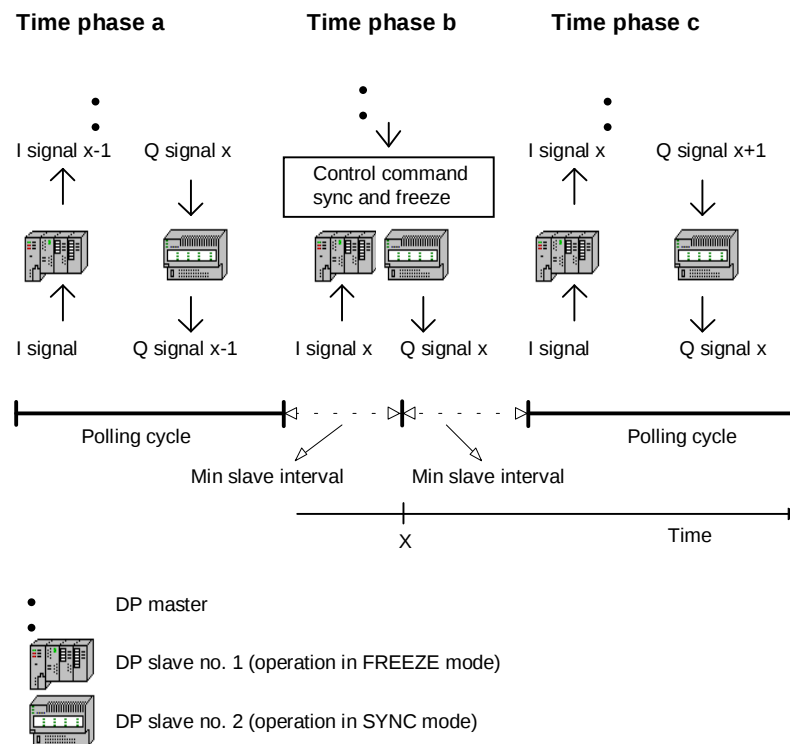

Fig. 3.3: Cyclic Transmission Based on the Example of Two DP Slaves
Fig. 3.3 illustrates cyclic transmission. During configuration with COML DP, you can specify whether a slave will be operated in the SYNC mode, in the FREEZE mode, in the SYNC and FREEZE mode or in neither of these modes.
- If cyclic control frames are configured, the time is used as shown in Fig. 3.3.